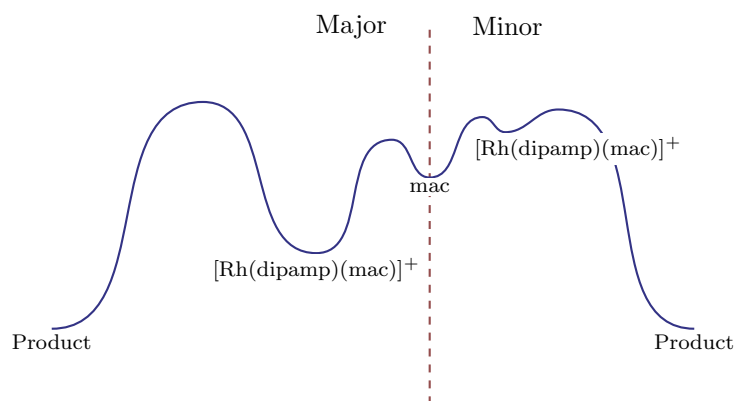

Figure 2: Reaction coordinate diagram.
- b) Figure 2 depicts two possible catalytic cycles for the asymmetric catalyst $[\text{Ru}(\text{dipamp})(\text{MeOH})_2]^+$. In this scheme, why is one labeled the “major manifold” and the other the “minor manifold?” Why does the minor manifold lead to the major product? Depict the differences in energy for each pathway with a reaction coordinate diagram (we used these to talk about catalysis on May 1) and indicate the resting state of the catalyst.